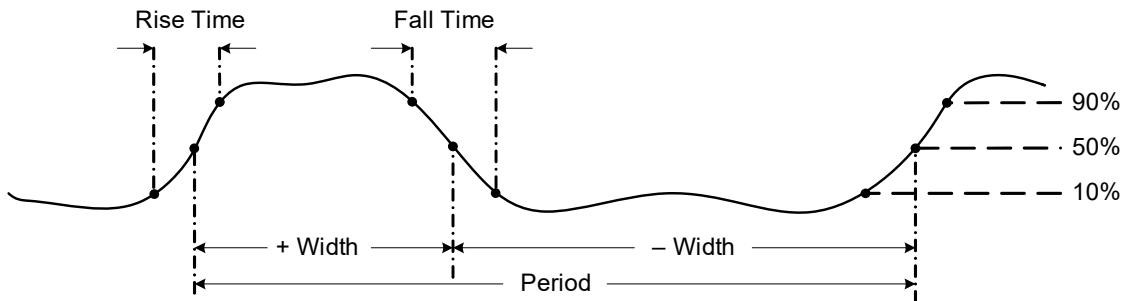

Figure 2-37 Frequency, pulse width, and duty cycle measurements
- Frequency is the number of cycles a signal completes each second. Frequency is defined as 1/Period. Period is defined as the time between the middle threshold crossings of two consecutive, like-polarity edges, as shown in **Figure 2-37**.
The pulse width function measures the amount of time a signal is high or low, as shown in Figure 2-37. It is the time from the middle threshold of the rising edge to the middle threshold of the next falling edge. The measured waveform must be periodic; its pattern must repeat at equal time intervals.
The duty cycle (or duty factor) of a repetitive pulse train is the ratio of the positive or negative pulse width to the period expressed as a percentage, as shown in Figure 2-37.